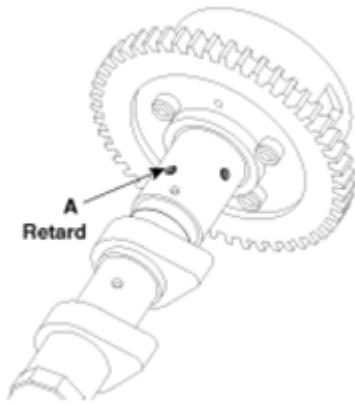

Fig. 37: Identifying Retard Hole
2. Apply vinyl tape to the retard hole except the one indicated by the arrow in **Fig. 37**.